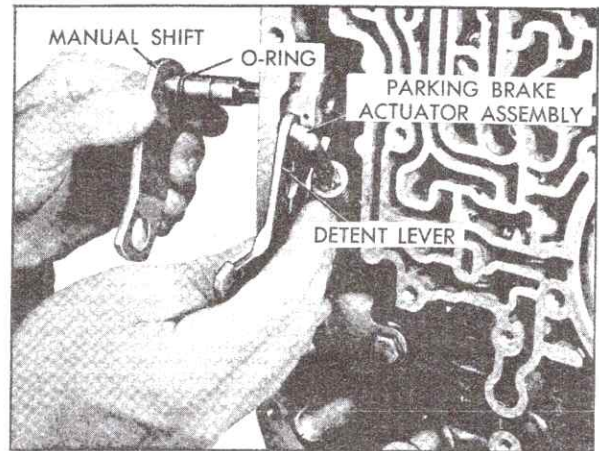

Fig. 7-198 Installing Manual Shaft
f. Install the manual shaft assembly through the case and detent lever, Fig. 7-198, and install the retaining lock nut on manual shaft.